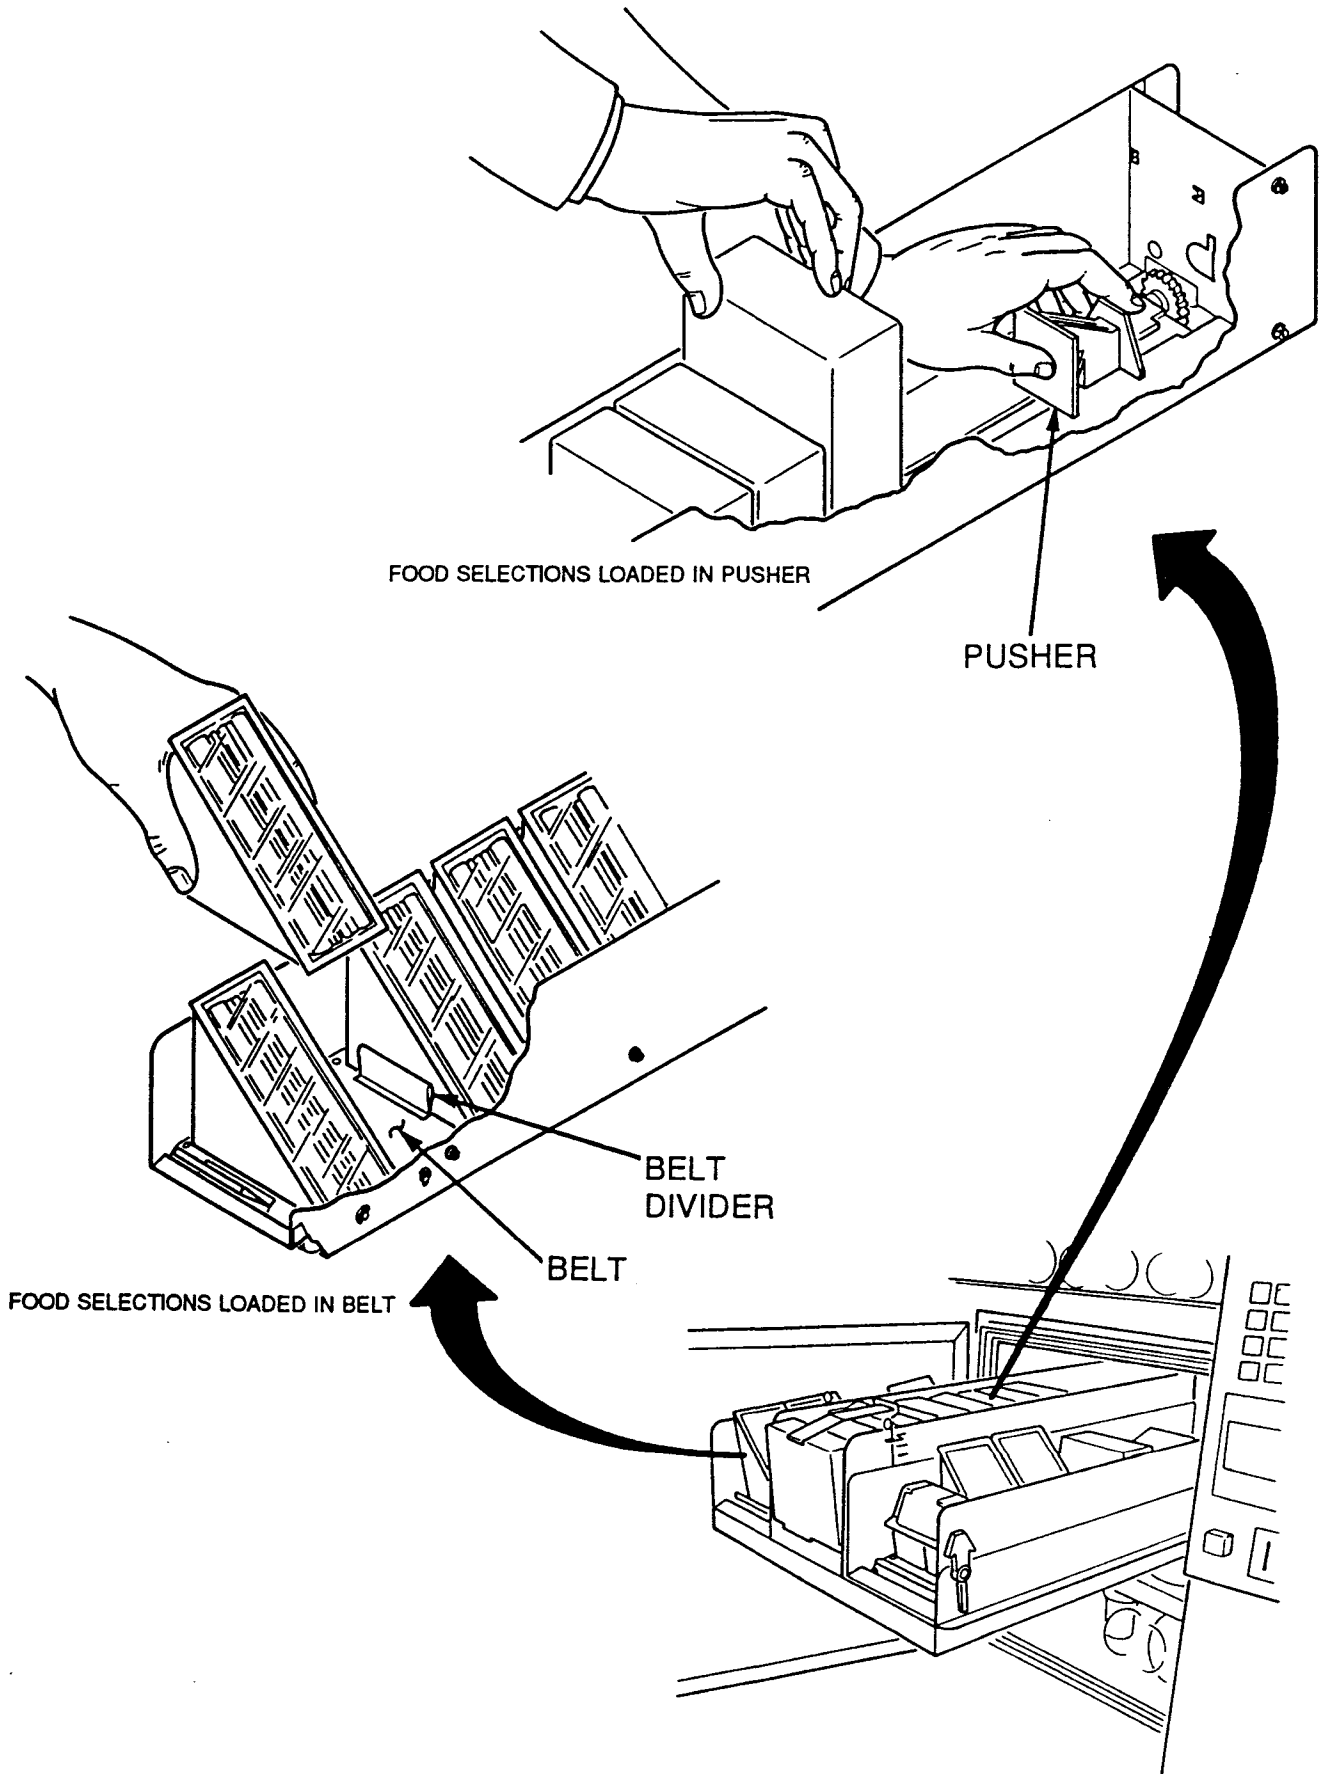

Figure FD-3c
- * Load the belt and pusher selections as shown in Figure FD-3c.